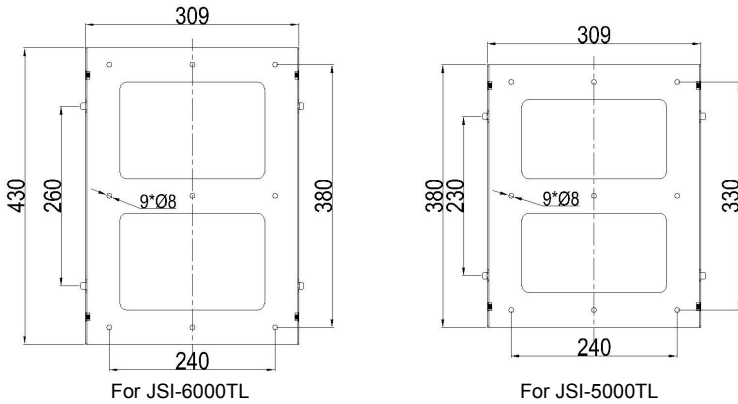

Fig.3 The size of mounting frame
Step1: Drill 6 or 9 holes as illustrated in the Fig.3